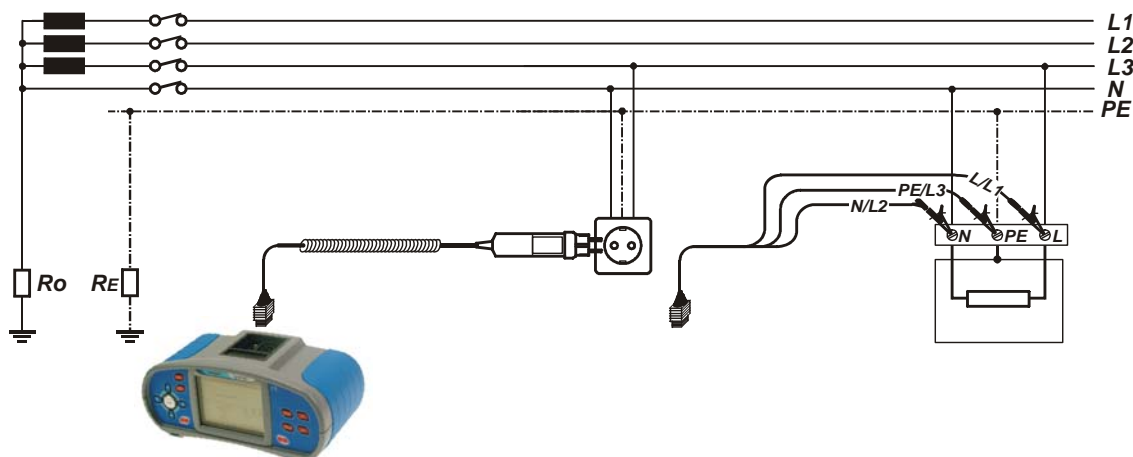

Figure F.6: Connection of plug cable and universal test cable
- ❑ **Connect** test leads to the tested object (see figure F.6).